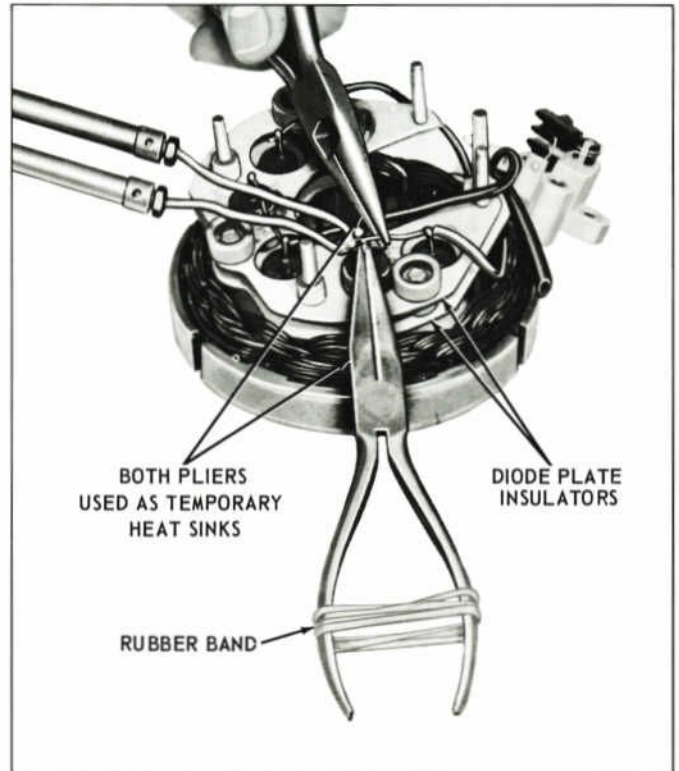

**FIGURE 45. REMOVING SPACER SLEEVES AND DIODE PLATE STUDS**
7. Remove the two spacer sleeves from the diode plate studs. (See Figure 45.)